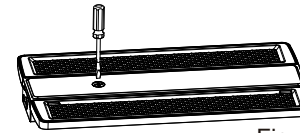

Figure 6
Step 1. Remove the 1/2 plug on the front of the fixture via a screwdriver. (Figure 6);